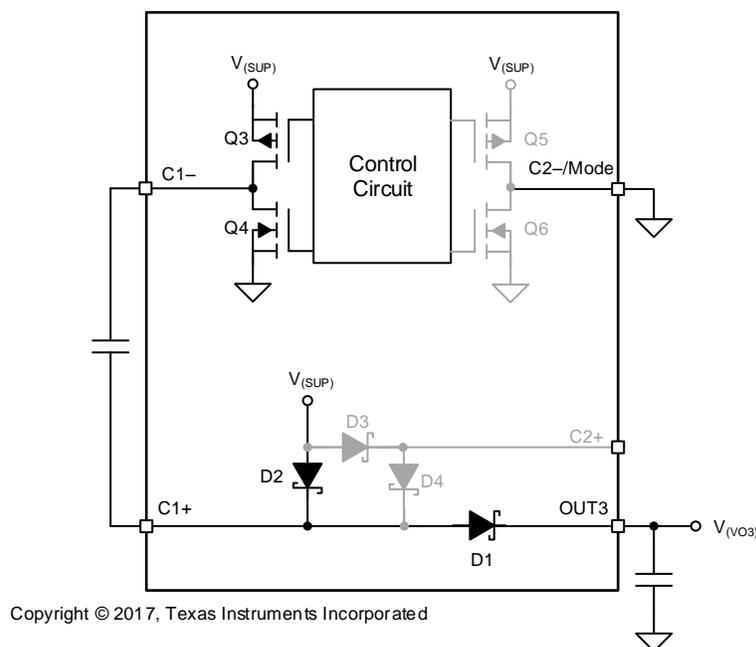

Figure 3. Positive Charge-Pump Circuit in Doubler Mode
To correctly use the doubler configuration of the positive charge pump connect the flying capacitor across the pins $C1-$ and $C1+$. Leave pins $C2+$ open and connect pin $C2-$ /Mode to ground, as shown in Figure 3
- V_{O1} is the output voltage of the boost converter (shown as $V_{(\text{SUP})}$ in Figure 3)